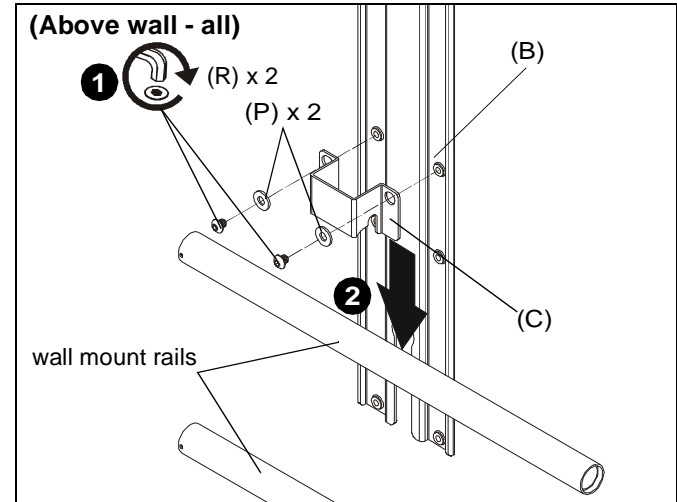

Figure 21
1. Use two 1/4-20 x 1/4" button head cap screws (R) and two large washers (P) to secure support bracket (C) to main bracket (B). (See Figure 21)
2. Slide main bracket (B) behind wall mount rails until support bracket (C) rests on top wall mount rail. (See Figure 21)